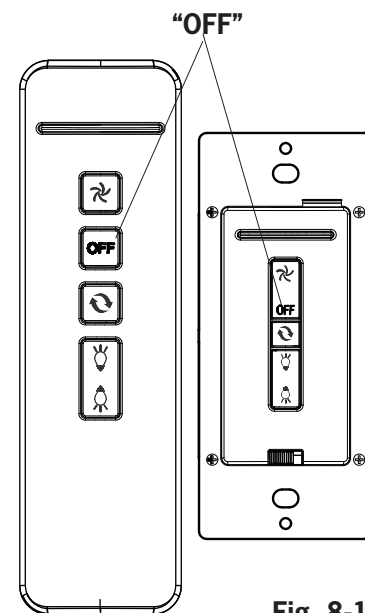

Fig. 8-1
2. **Learn function setting**, Restore power source to your fan, press and hold the "OFF" button for at least 4 seconds. You must press the 'OFF' button within 60 seconds of restoring power to the fan. (Fig. 8-1)